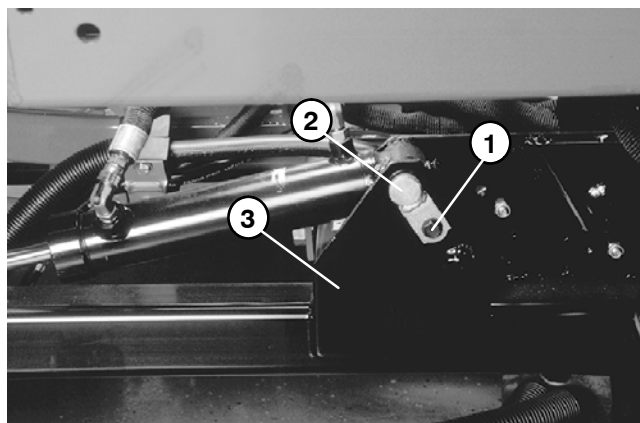

Figure 102
A. Remove retaining ring from the cylinder rod end pin. Remove cylinder pin with remaining retaining ring and thrust washers from the lift arm and cylinder clevis (Fig. 102 and 101).
B. Remove self tapping screw from cylinder pin and carrier frame. Pull cylinder pin from carrier frame and cylinder clevis (Fig. 102).
A. Insert cylinder pin through carrier frame and cylinder clevis. Secure self tapping screw to cylinder pin and carrier frame (Fig. 102).
B. Insert cylinder pin with attached retaining ring and thrust washer through the lift arm and cylinder clevis. Secure thrust washer and retaining ring to the cylinder rod end pin (Fig. 102 and 101).